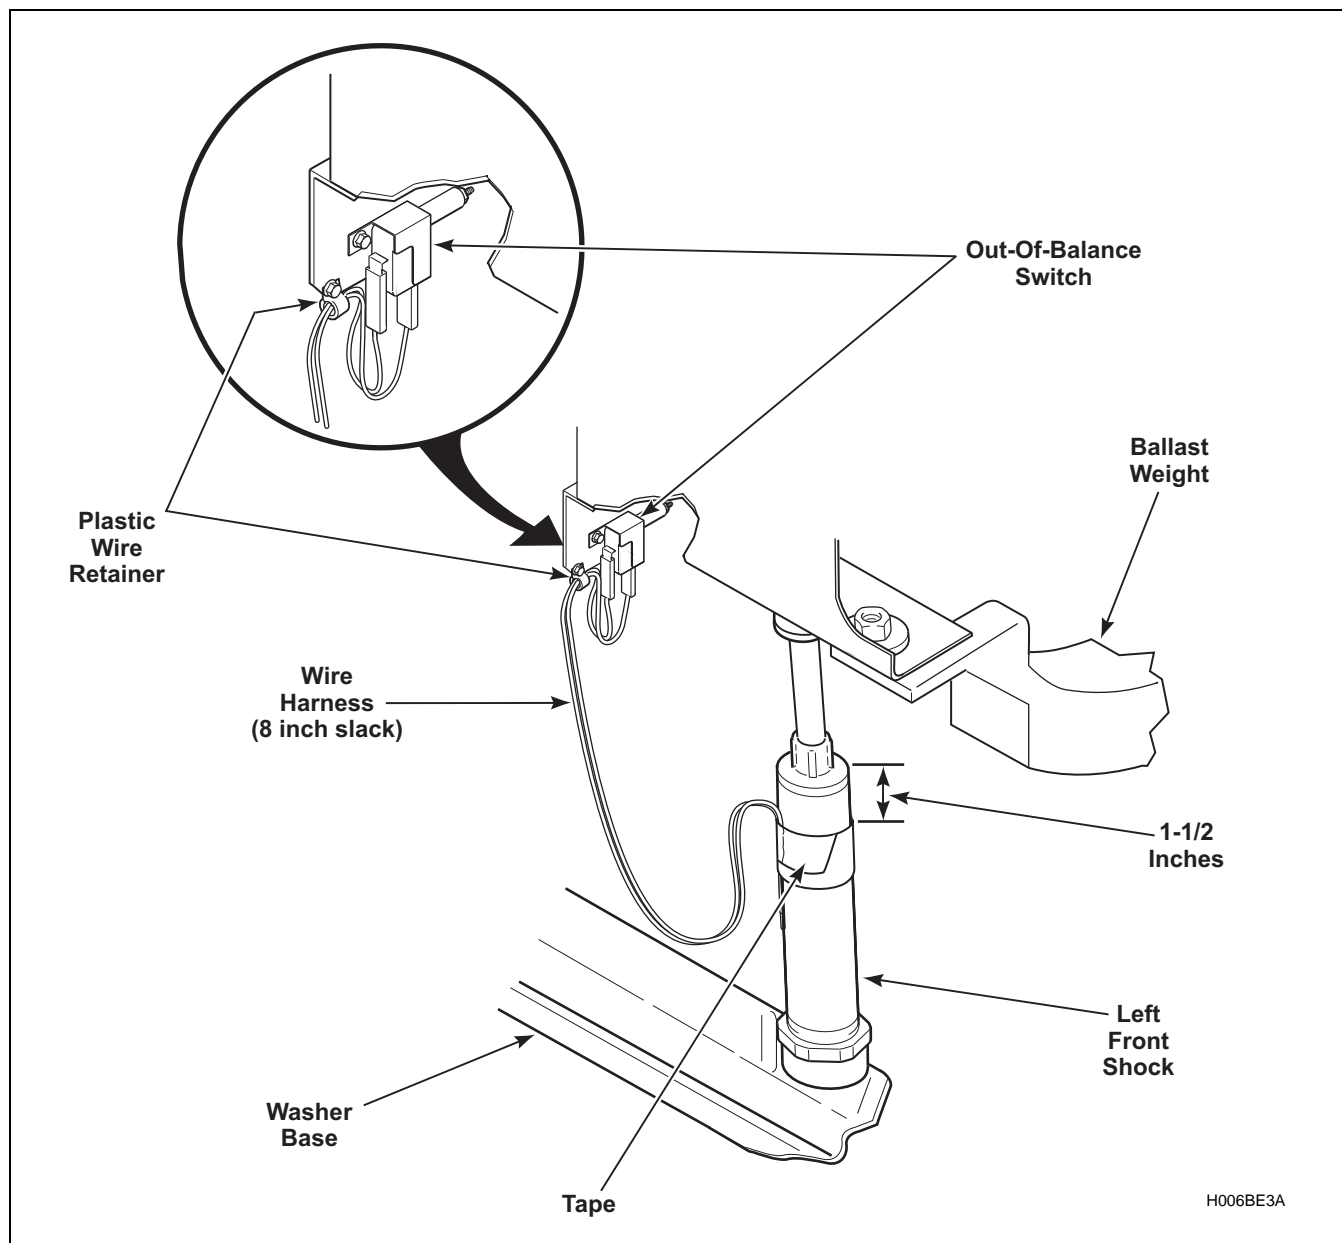

Figure 11
- After replacing the wire harness, tape the harness wires to the left front shock 1 ½ inches from top of shock. Refer to *Figure 11*.
**IMPORTANT:** Leave a minimum of 8 inches of slack between tape on shock and the plastic wire retainer on the out-of-balance switch mounting bracket. Refer to *Figure 11*.